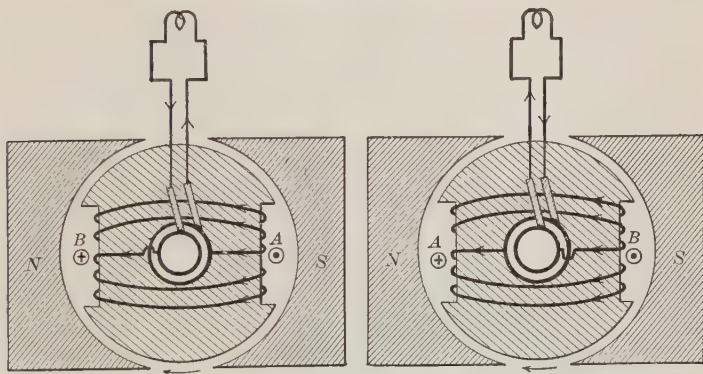

FIGURE 463. — CURRENT DIRECTIONS IN THE ALTERNATOR.
**312. Alternating-Current Generators.** — Fleming's rule shows that as the wires on the side of the coil *A* (Figure 463, left) move *down* through the magnetic field, E.M.F. is induced *toward* the observer. As *A* moves *up* through the field, an opposite E.M.F. must be induced in it. The other side of the coil *B* induces an E.M.F. that is opposite that of *A* but which really pushes current in the same direction through the coil. Since the wires of the coil move across the field, first in one direction and then in the other, the E.M.F. in the coil must be a reversing or alternating pressure. Since in